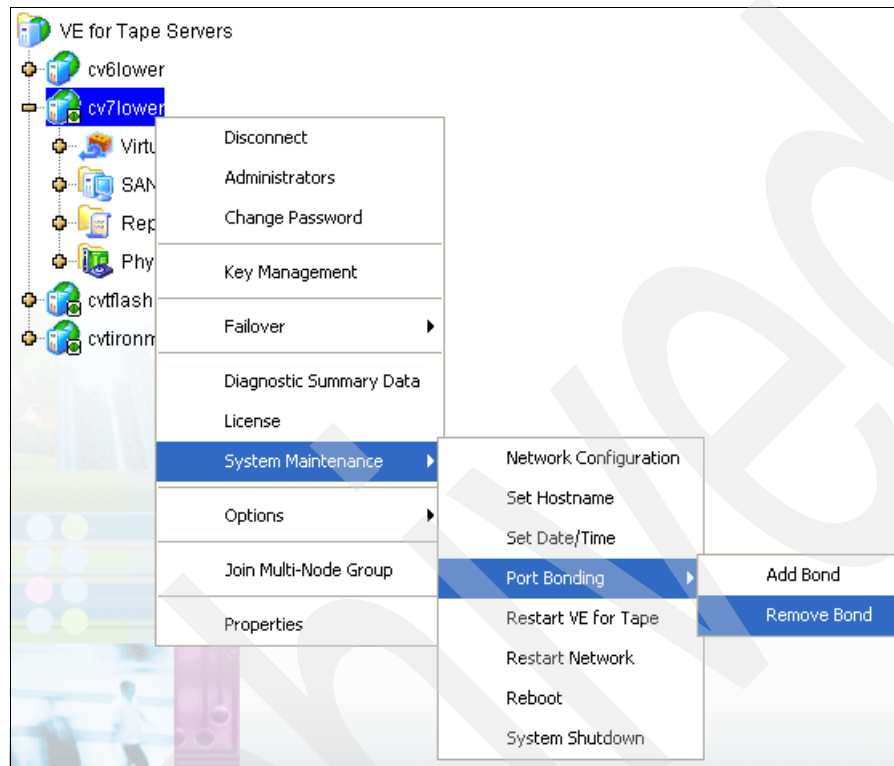

Figure 12-2 Select Remove Bond
1. To delete the previous bonding, right-click the TS7530 Server name and select **System Management** → **Port Bonding** → **Remove Bond**. See Figure 12-2.